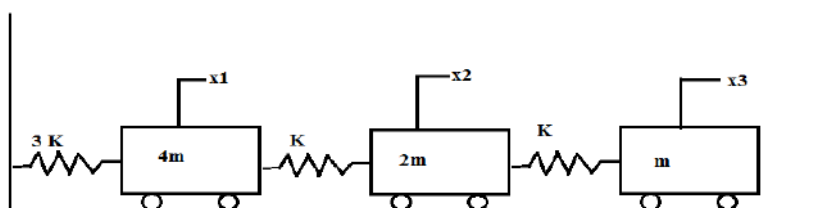

Fig.2
5. A three degree of freedom system is schematically shown in Fig.2 Write down three differential equations of motion by Newton's Second Law. Put these equations in matrix form.